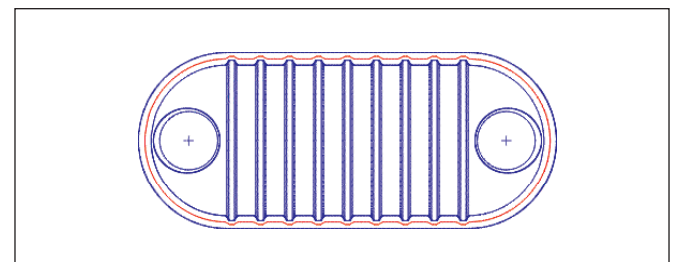

FIGURE 7-2
7.2.7. On the bottom-half flange, begin applying adhesive by making a 3/4-inch bead in the middle of the flange at the edge of the dome, and work your way around the perimeter. (See FIGURE 7-2.)